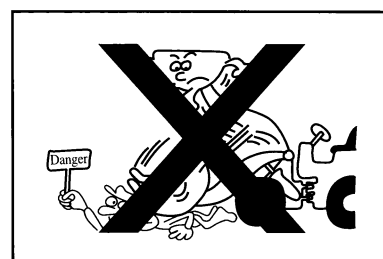

Figure1-76
- Unconcerned people should not be permitted entering into working area. As the working mechanisms of the loader move up and down, and the loader itself also move around, so it is forbidden to enter into the working area of the working equipment. If the machine can't work, please fix the working equipment firmly at first. (Figure 1-76)